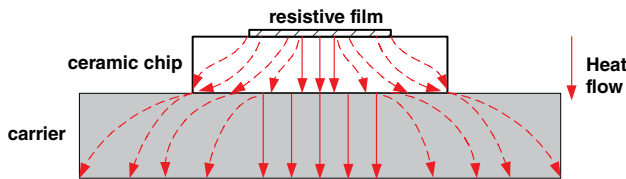
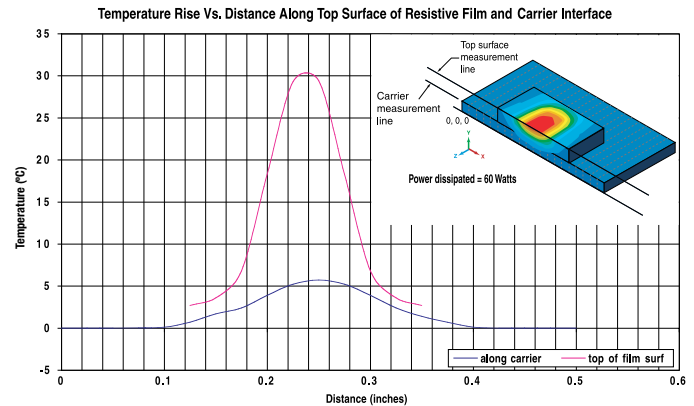
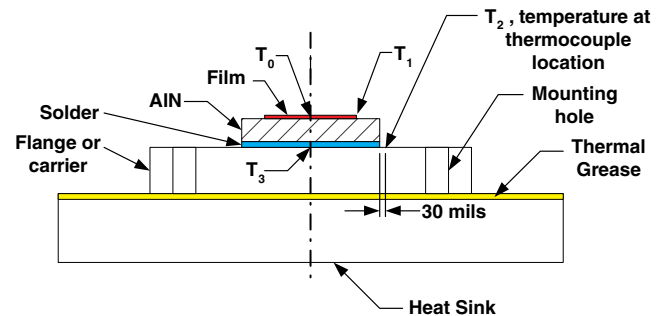

Figure 10. Heat flow around a mounted chip resistor
Figure 11: Computer simulation of isotherms around mounted chip resistor
Figure 12: Temperatures at a number of points on and around a ground plane-mounted resistive chip
Before we can do a thermal design, we must first decide on exactly what we shall mean by “power rating” for a chip device. **Figure 10** illustrates the heat flow around a mounted chip resistor. The resistive film, assumed to have constant power dissipation over its surface, behaves as an isoflux boundary, i.e., a source of uniform heat flux, rather than the isothermal boundary used in the derivation of equation (2). Were the film to completely cover the chip, the isoflux case would approach the isothermal case, but absent that condition the heat spreads out as shown.
The thermal resistance between two points is defined as the temperature difference between those points divided by the heat flow (typical units are degrees Centigrade/Watt). It is analogous to electrical resistance, with temperature corresponding to voltage and heat flux to current. **Figure 10** indicates that there is vertical as well as lateral heat flow in both the ceramic chip and the carrier it is mounted on. This implies that the system must be represented as a lattice network of thermal resistances rather than a single thermal resistance.
(The latter can characterize only the kind of one-dimensional heat flow assumed for equation (2).) **Stated alternately, the temperature will vary laterally along the film and, also, laterally along the mounting surface.** This is illustrated in **Figure 11**, which was made using a “Finite Element Method” (FEM) computer simulation. In actuality, a three-dimensional latticework of resistors is needed to describe a mounted resistive chip, and there is temperature variation along all three dimensions.
The above considerations bear importantly on how a chip is designed and characterized for power handling and exactly how confirming measurements are made. **Figure 12** indicates temperatures at a number of points on and around a mounted chip: (a) T_0 , at the film centroid; (b) T_1 , at the film edge or corner; (c) T_3 , on the mounting surface directly under the film centroid; and (d) T_2 , on the mounting surface 30 mils away from the chip edge. We can make the following qualitative observations:
An ideal heat sink has infinite thermal conductivity and, because of this, the infinite thermal conductivity, T_2 would equal T_3 in Fig. 12. From Fig. 10 and Fig. 11, this clearly is not the case for any real mounting surface; in fact, $T_3 > T_2$.
One strategy for defining power rating might be to measure T_3 directly – or deduce it from a measurement of T_2 and a computer FEM model – and then specify performance as if an ideal heat sink were held everywhere at that temperature. By slicing a mounted resistor in half along its longitudinal axis – in **Figure 12**, perpendicular to the plane of the paper, down the centerline – we were able to take advantage of the lateral heat-flow symmetry to measure T_2 and T_3 for chips of several sizes and input powers. (The slice plane is an adiabatic boundary, i.e., no heat flows across it.) Results of such measurements are presented in **Table 2**. All chips were 40 mils thick and all measurements were made on a silver-plated high-conductivity copper mounting surface (see the table for more information).
- Next, since our carrier does not have infinite thermal conductivity, we must specify the exact location – **T₂ in Figure 12** – at which we hold the ambient temperature constant. **Typically, we choose this as 30 mils from the chip edge along its lateral centerline** – an arbitrary, convenient spot at which to solder a small thermocouple.
Let us assume a perfectly conducting mounting surface in **Figure 10**, i.e., a surface along which there can be no lateral temperature variation. Then to calculate the total thermal resistance from the film to the mounting surface, one would compute the one-dimensional resistance of the chip with the film occupying its entire surface and then add the constriction resistance to account for the lateral constriction of the heatflow. (Note, from the top down the heat spreads and so the term “spreading resistance” is frequently used, but from the bottom up the heat flow constricts.) There are several expressions available in the literature for the constriction resistance of heat sources mounted on rectangular channels (“flux tubes”) with adiabatic walls, i.e., heat-producing films on chips that have no appreciable heat conduction perpendicular to their sidewalls. One formula that yields constriction resistance based on an average film temperature is⁵.